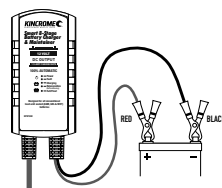

Fig. 1
- If the battery is still **in the vehicle**, determine if the vehicle is positively or negatively earthed (Fig 1).